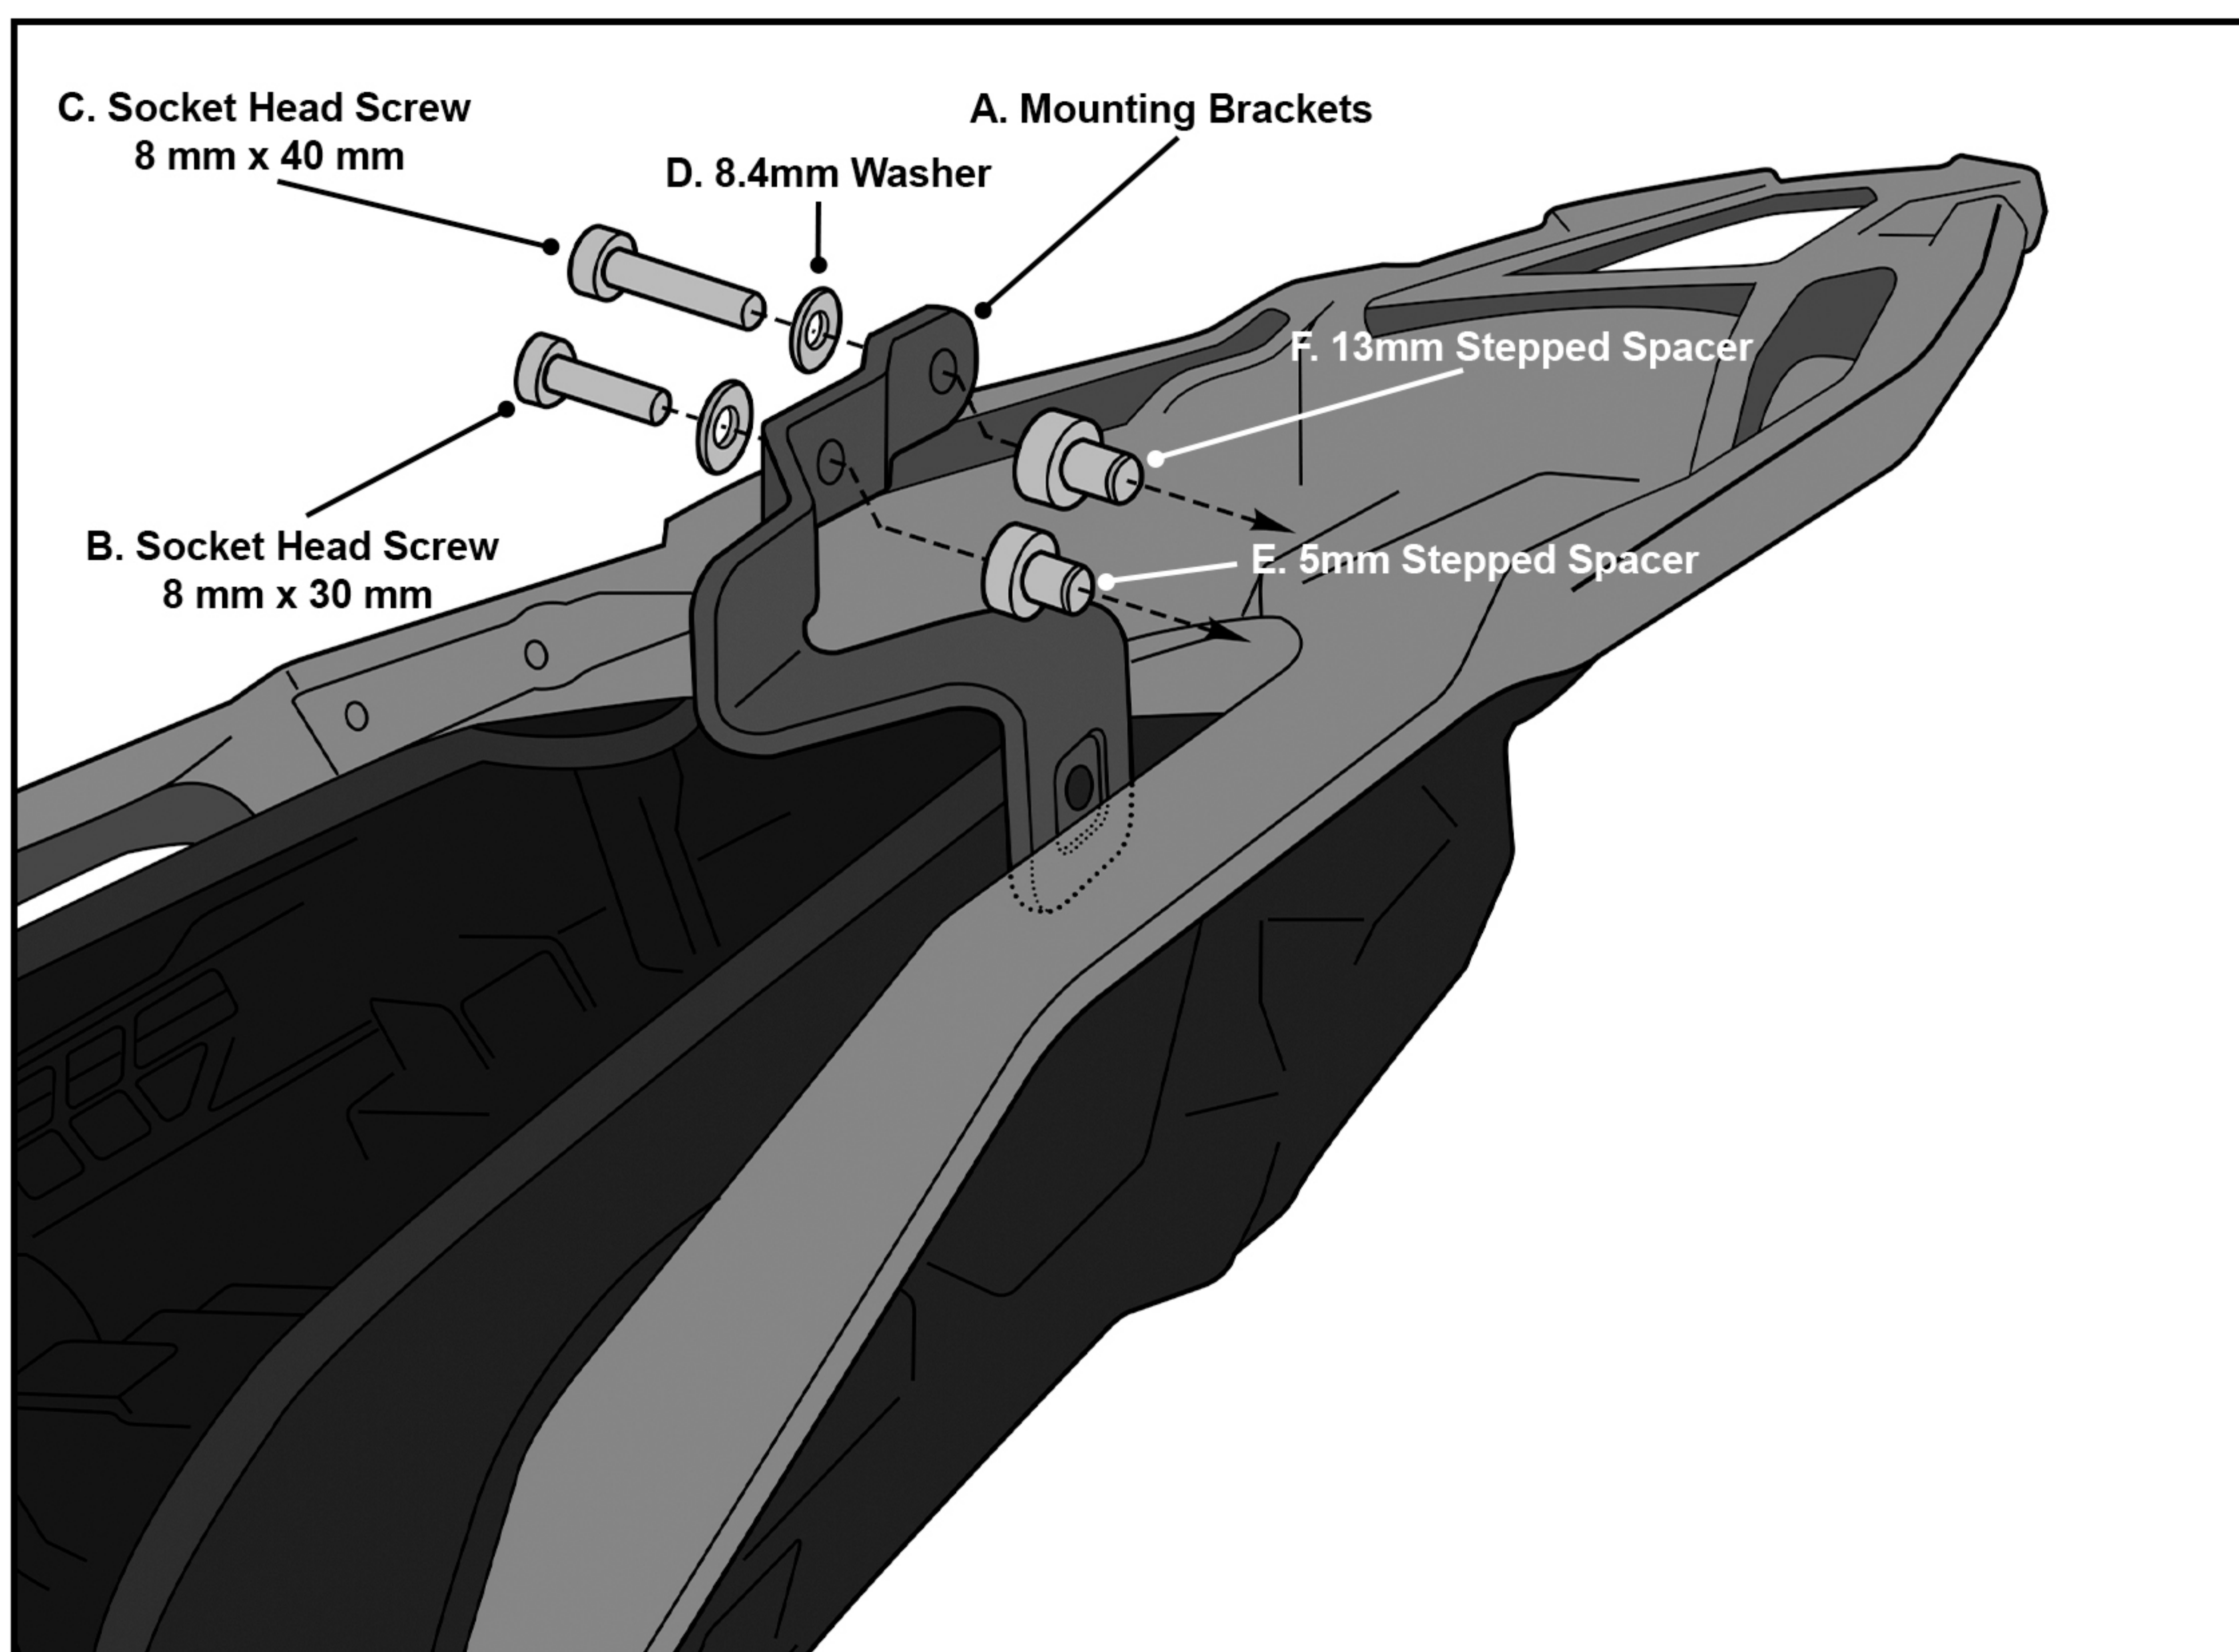

Fig 2. Installing the bent mounting tab
Install the mounting bracket (A) to both sides of the fender using provided bolts [C, D], washers [D] and spacers [E, F]. See Figure 2.